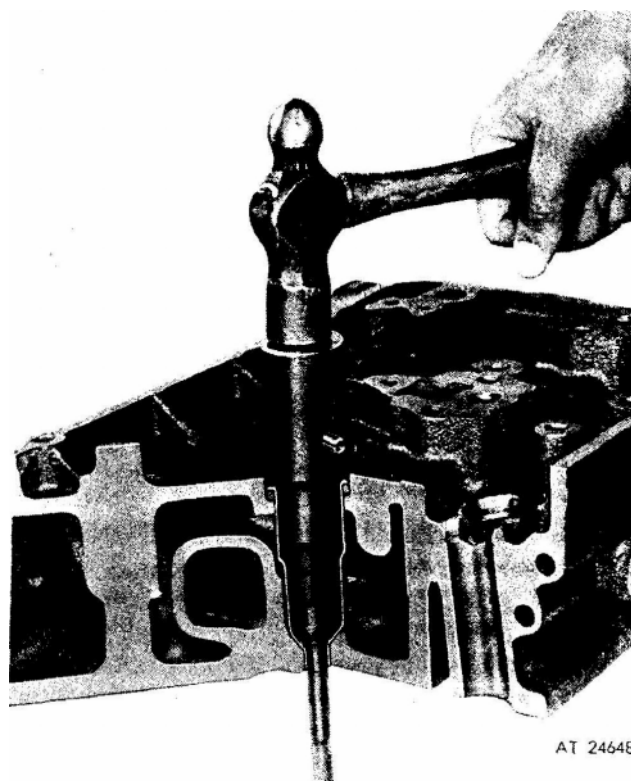

Figure 2. Installing injector tube with installer J5286-4 and Pilot J 5286-5.
2. Place the driver J 5286-4 in the injector tube, then, insert the pilot J 5286-5 through the small opening of the injector tube and thread the pilot into the tapped end of the driver (fig. 2).
3. Slip the injector tube into the injector bore and drive it into place as shown in figure 2. The flange at the upper end of the tube will seat on the seal ring in the counterbore of the cylinder head when the injector tube is properly positioned.